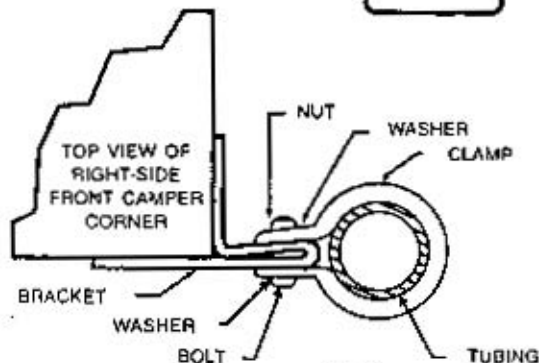

Fig. 2
5. Mount brackets so that the thick flat side of brackets extend away from the front and rear of camper. (See Fig. 2)